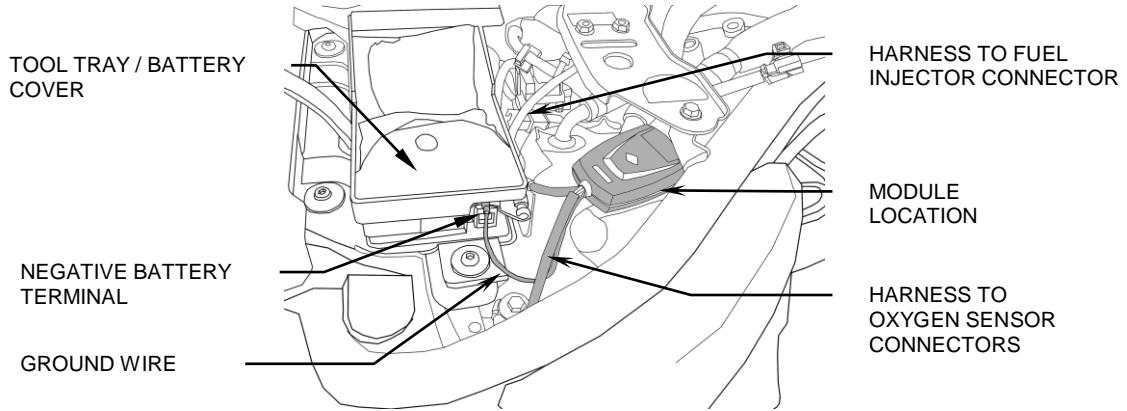

FIGURE 1
2. Position the Fi2000R module in the area under the seat, then feed the Fi2000 harness with the white connector forward under the seat latch bracket and route it forward between the two large fuel hoses, see Figure 1.
5. Velcro the Fi2000R module to the black fuel pump tank, see Figure 1. Lift up the tool tray / battery cover to access the negative post of the battery. Attach the ground wire from the Fi2000R to the negative post. Reinstall the cover. Before reinstalling the seat, verify connections.